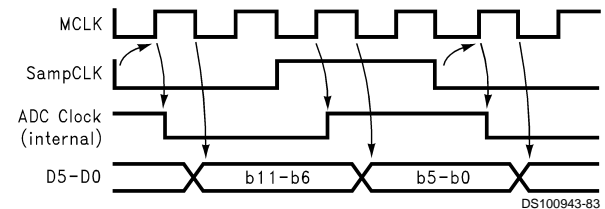

FIGURE 11. LM9810/20 Relative Event Timing
The LM9810/20's internal ADC clock is created through a combination of the applied SampCLK and MCLK signals. MCLK is used to synchronize the applied SampCLK signal. The internal ADC clock will go low after the falling edge of SampCLK is clocked by a rising of MCLK. The ADC clock will stay low for two MCLK cycles and then go high. It will stay high until the next falling edge of SampCLK is clocked by MCLK. *Figure 11* illustrates this SampCLK, MCLK, and ADC clock timing relationship.
*Figure 11* is an example of SampCLK timing that will meet these requirements at the maximum MCLK frequency of 24 MHz. In *Figure 11*, SampCLK transitions occur on MCLK falling edges which will keep them more than 20 ns away from ADC transitions, and 40 ns after output data transitions.